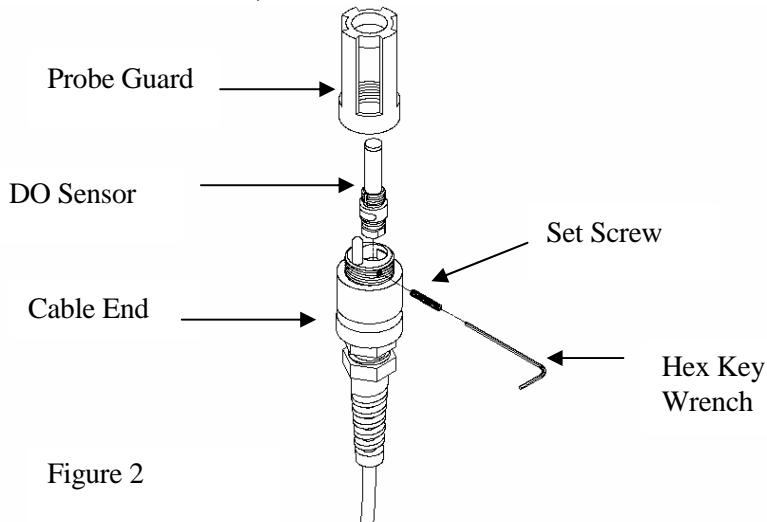

Figure 2
3. Insert the long end of the hex key wrench into the small hole in the side of the DO sensor module (see figure 2). Turn the wrench counter clockwise and remove the screw. (You do not have to remove the screw all the way to release the sensor.)